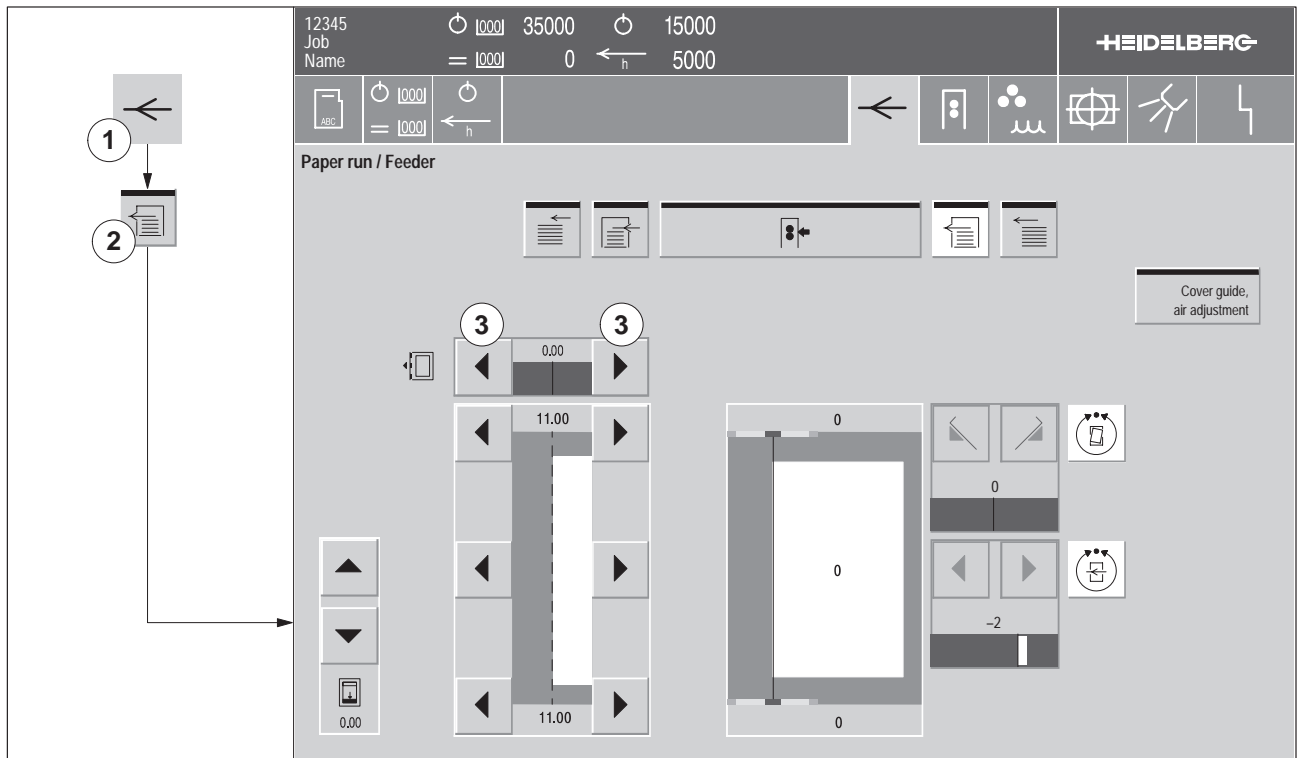

Fig. 7 Adjusting the front lay deflection
1. Press the *Sheet travel* button (Fig. 7/1) in the banner line. The **Paper run** menu appears.
2. Press the *Feeder* button (Fig. 7/2). The **Paper run/Feeder** menu (Fig. 7) appears.
3. Use the arrow keys (Fig. 7/3) to adjust the front lay deflection. The set value is displayed between the two arrow keys.